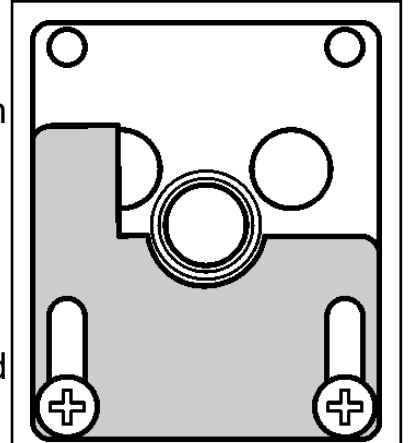

Figure 31. Aeration shutter setting.
1. The aeration shutter is factory set. It is important to ensure that the aeration setting is correct (See figure 31).
2. If the setting is not as shown in figure 31 adjust the aeration setting. To do this loosen the two aeration shutter screws, slide the aeration shutter to the desired position and tighten the screws.